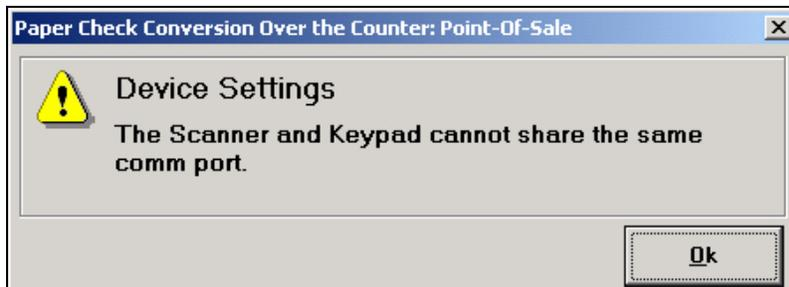

Figure 2.2.1
*Note: If using a Serial connection, the scanner and keypad must be configured to different ports. If they are not, an error is produced (Figure 2.2.1)*